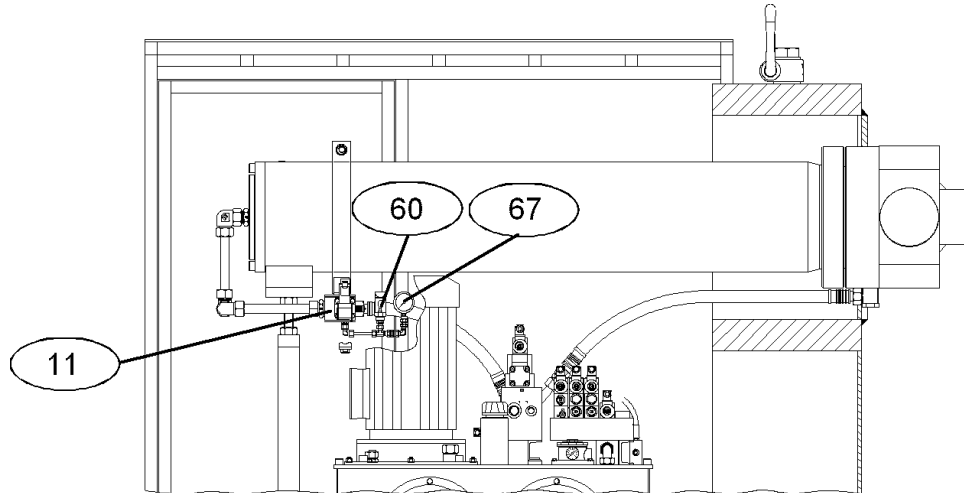

Fig. 76
- A safety block (163, Fig. 76) is located on the bottom of the cylinder. This keeps the press closed, even if a hose rupture should occur. There is also a manometer (67) for pressure control and both pressure switches control the lock cylinder.
- Pressure sensor (60, Fig. 76) controls the closing pressure of the press. If the closing pressure falls below the set value during operation, the hydraulic pump automatically starts up again until the set value is reached. The pump then shuts off time delayed.. The pressure sensor also controls the decompression of the main cylinder while the press opens.